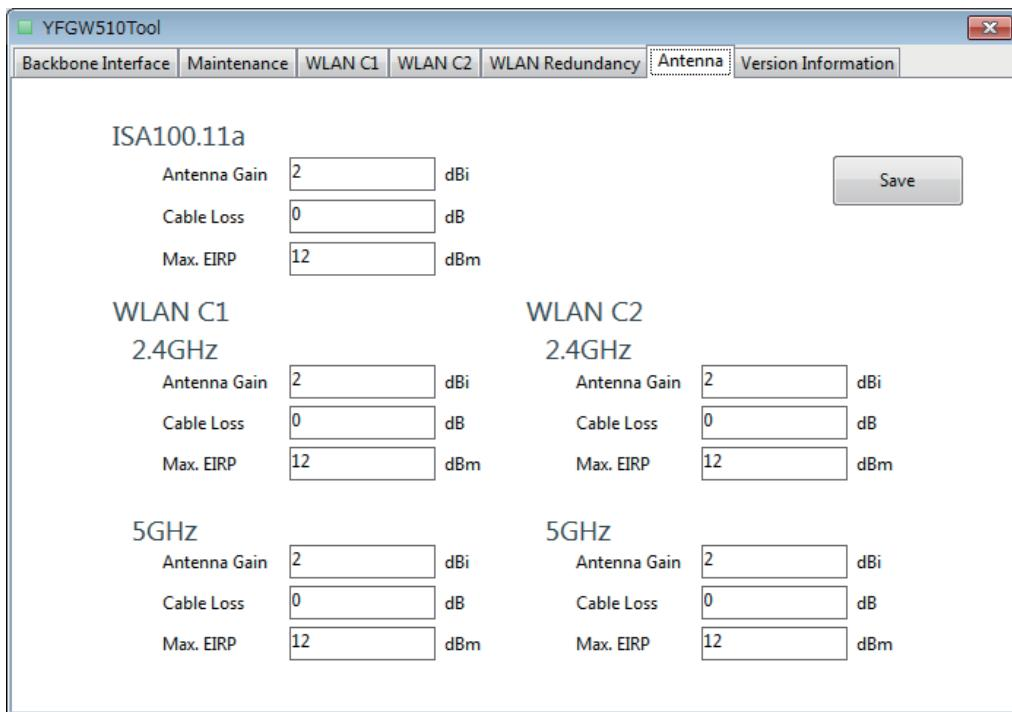

Figure 3-4 Antenna tab window
- Select the [Antenna] tab (Figure 3-4). Set the values by following the procedures described in Section 2.4 “RF output settings for field wireless (ISA100.11a).”